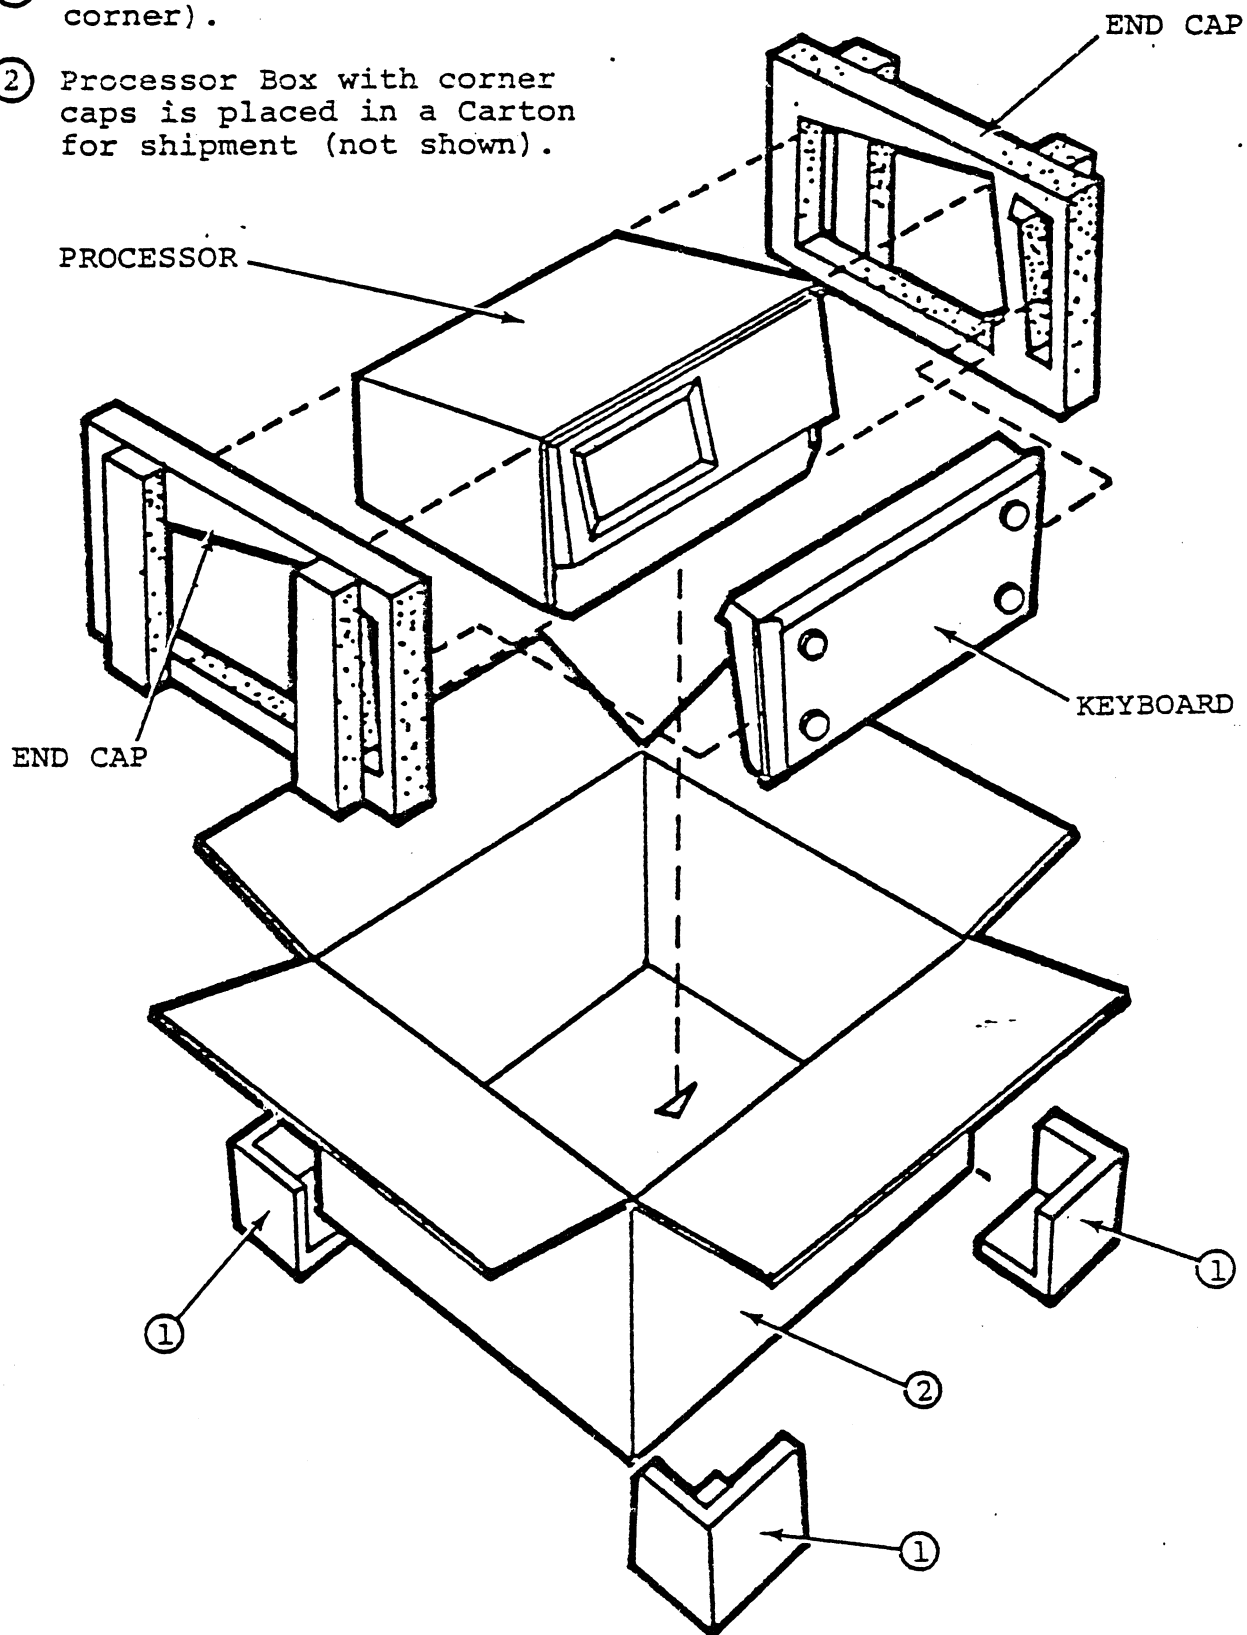

Figure 2-1. 1800 Processor Shipping Container
- a. The processor and keyboard are packed between two polystyrene plastic end caps (See Figure 2-1). Carefully remove the processor and keyboard, with the end caps, from the container. Verify that all items are present as per the shipping list. Missing items must be recorded.
① Corner Caps (8, One at each corner).
② Processor Box with corner caps is placed in a Carton for shipment (not shown).